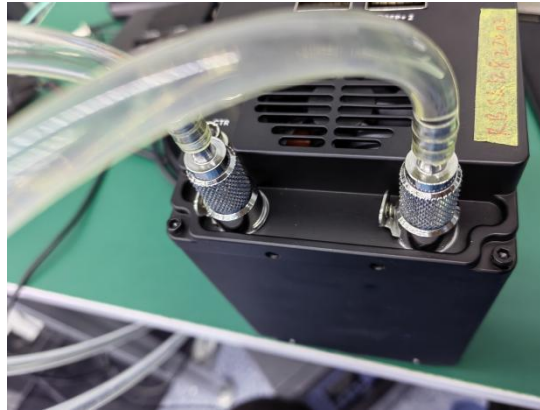

Figure 3-14
3) Connect the water-cooling camera's connector to the inlet and outlet water tubes of the water-cooling machine, as shown in Figure 3-14.